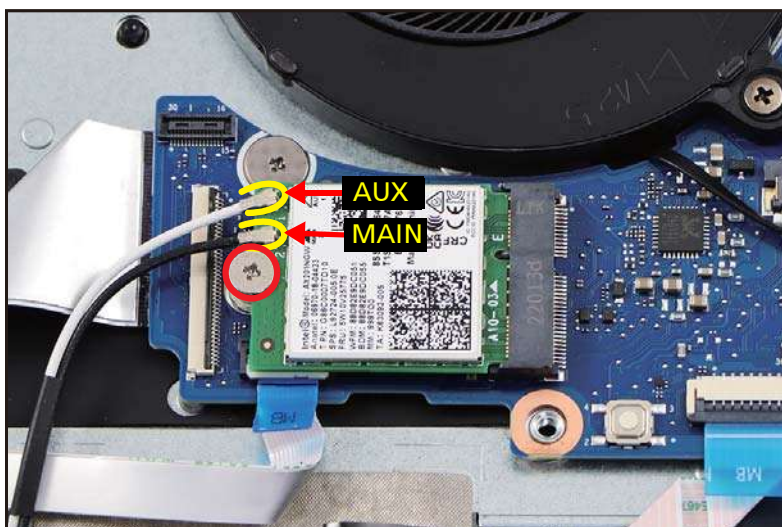

Figure 3-117. Replacing the WLAN Module
2. Install and secure one (1) screw to the WLAN module (Figure 3-117).
3. Connect the AUX antenna cable (white-color) to the WLAN AUX pin (Figure 3-117).
4. Connect the MAIN antenna cable (black-color) to the WLAN MAIN pin (Figure 3-117).